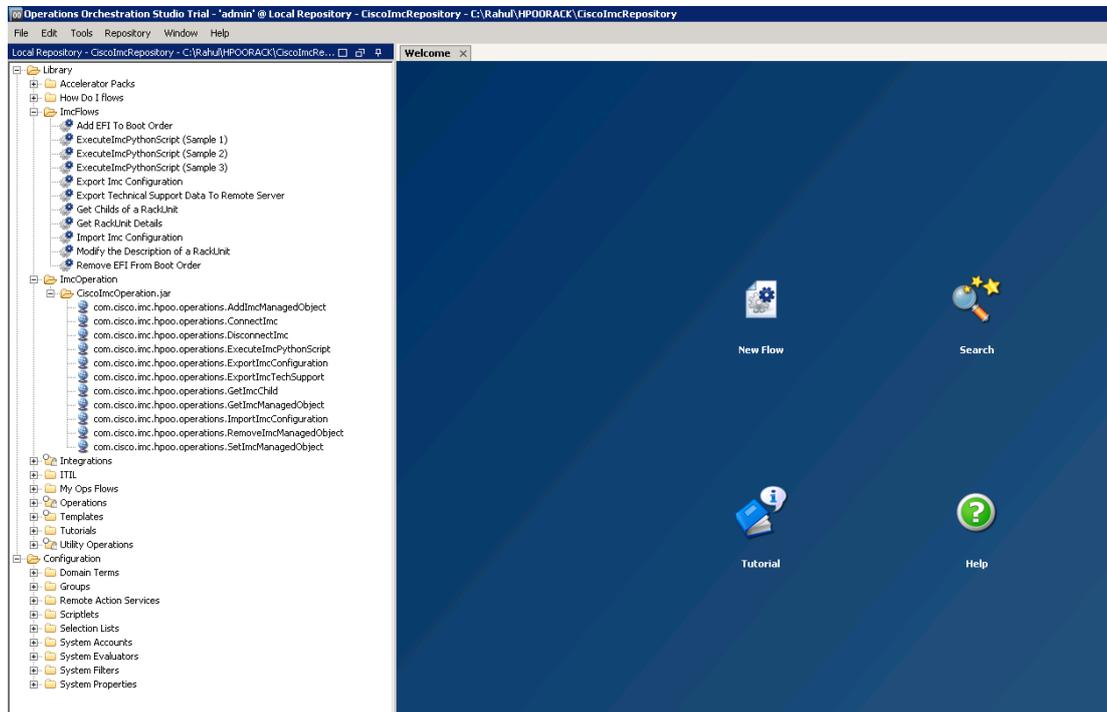

Figure 6: Imported Operations and Flows
- Once done, the IMC Operations/Flows and Configuration data from the imported repository is displayed in the current Studio directory as shown in Figure 6. Folders “ImcOperation”, “ImcFlows” in Library and selection list entries in Configuration would be newly selected.